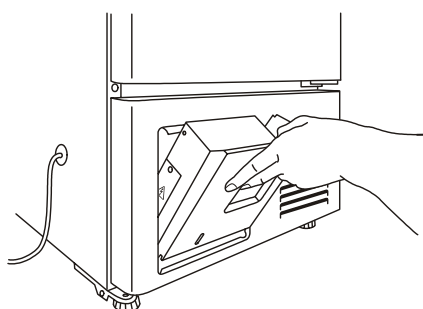

Fig. 12
3. Remove the cap on the port for taking out the recorder sensor and take out the recorder sensor. Then set the recorder fitting to the space of temperature recorder. (Fig. 12)